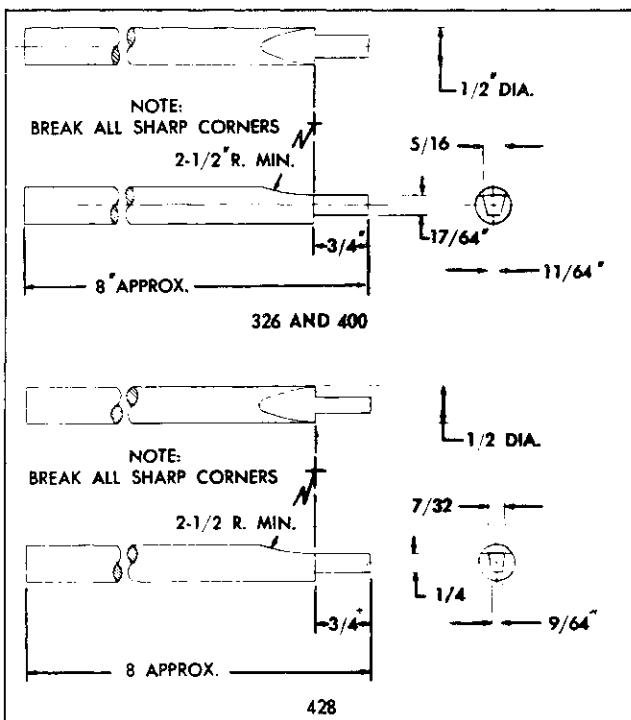

Fig. 6-105 Rear Main Bearing Seal Tool
4. Use tool shown in Fig. 6-105 made from brass bar stock to pack upper seal as follows: